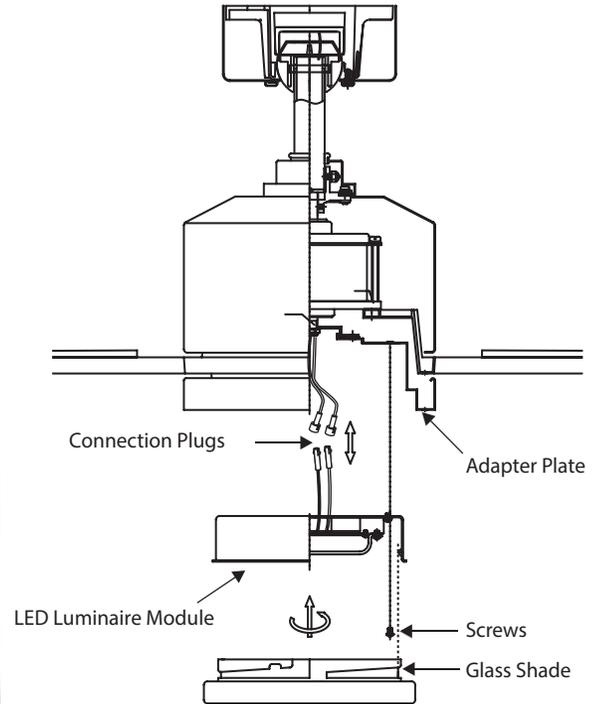

FIGURE 19
2. Raise and hold the LED luminaire module close to the adapter plate and proceed to secure the wire connections. Connect the white wire connectors from the luminaire module to the white wire of the fan. Follow the same procedure with the black wire connectors (Fig. 19).
3. Tuck connections neatly into adapter plate. Place the luminaire module key holes over the 2 screws previously loosened from the adapter plate. Turn luminaire module until it locks in place at the narrow section of the key holes. Secure by tightening the 2 screws previously loosened and the one previously removed (Fig. 19).